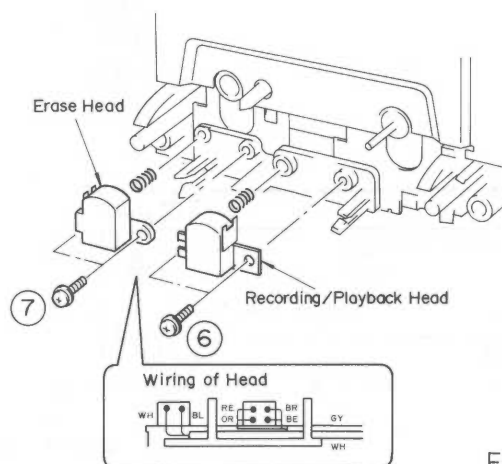

Fig. 5
- Remove 2 screws (⑥) in fig. 5 and then remove the Recording/Playback Head.
- Remove 2 screws (⑦) in fig. 5 and then remove the Erase Head.